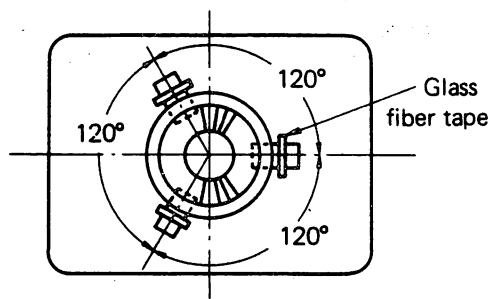

Figure 5-22
d. Apply a piece of glass fiber tape to each wedge as shown in Figure 5-22.